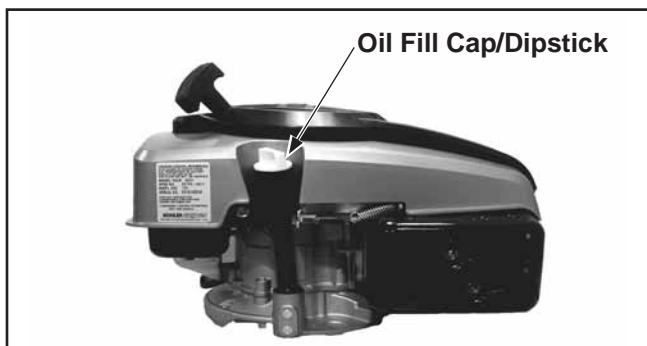

Figure 13. Oil Fill Cap/Dipstick.
3. Unscrew and remove the oil fill cap/dipstick; wipe off oil. Reinsert the dipstick into the tube and rest the oil fill cap on the tube. **DO NOT** screw the cap into the tube. See Figure 13.